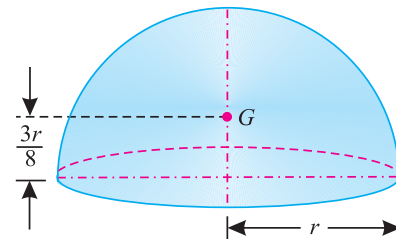

Fig. 6.6. Hemisphere
9. The centre of gravity of a hemisphere is at a distance of  $\frac{3r}{8}$  from its base, measured along the vertical radius as shown in Fig. 6.6.